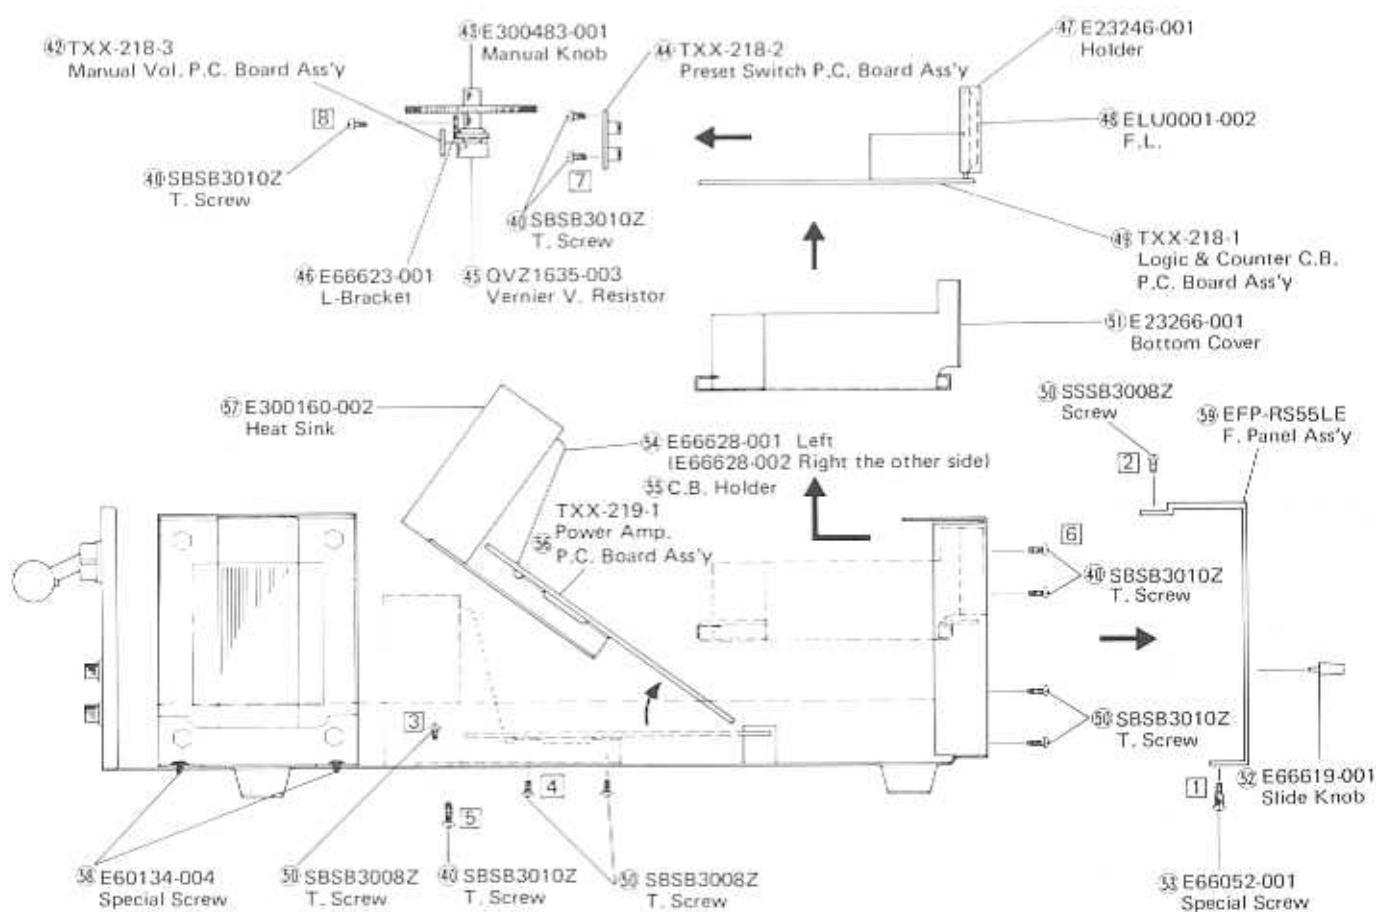
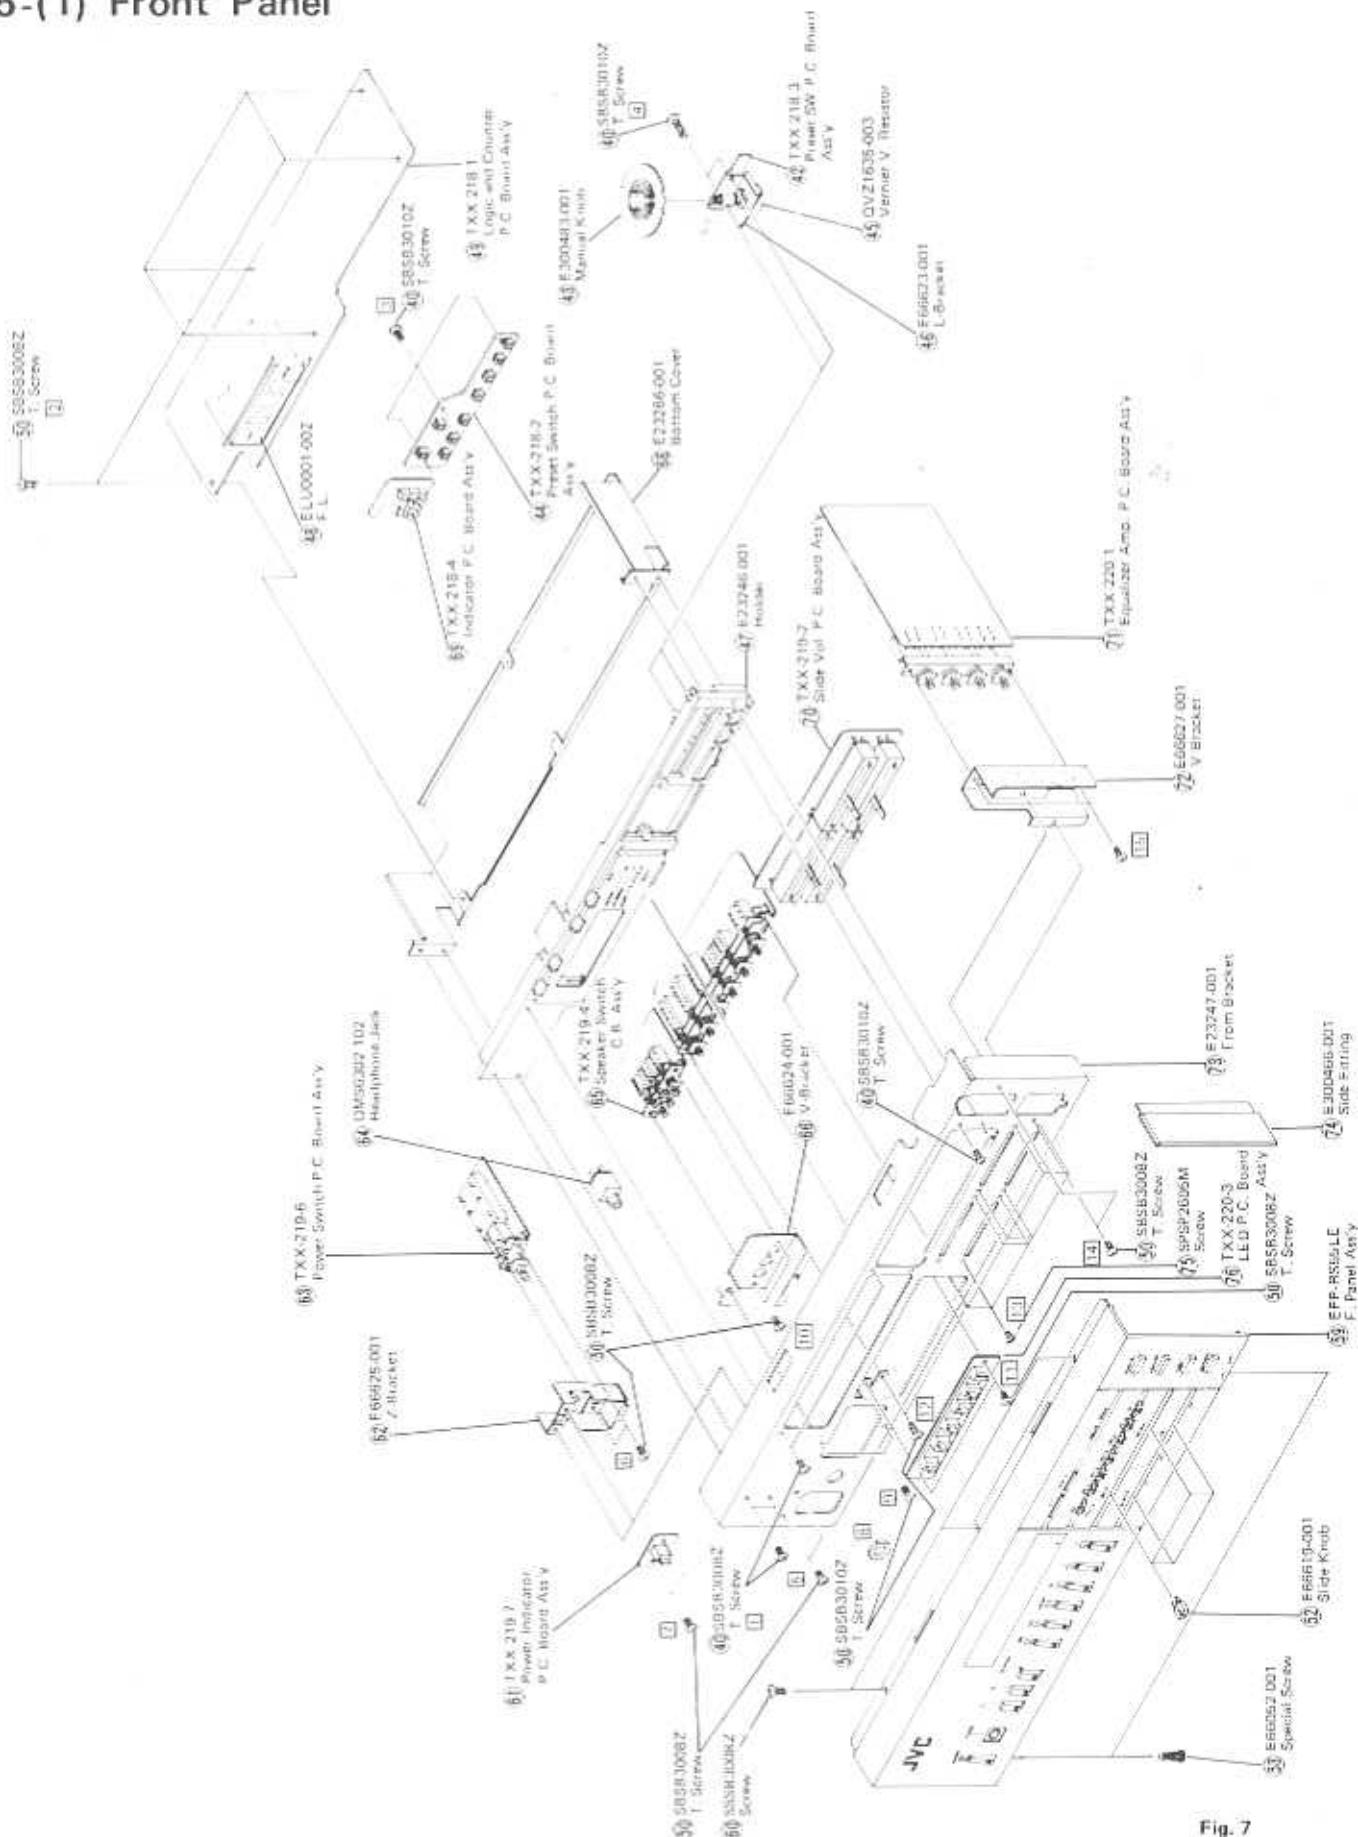

Fig. 6
Fig. 7
1. Remove 3 Screws 1 of Fig. 6
2. Remove 3 Screws 2 of Fig. 6
1. Remove 2 screws [3] of Fig. 6.
2. Remove 4 screws [4] of Fig. 6.
3. Remove 2 screws [5] of Fig. 6.
4. Pull the C.B. as shown Fig. 6 out.
2. Remove 6 screws [1] of Fig. 7 ([6] of Fig. 6) to take the Holder with this P.C Board Ass'y
3. Remove 2 screws [4] of Fig. 7 and take the TXX-218-3 Manual Vol. P.C. Board Ass'y off.
4. Remove 5 screws [2] of Fig. 7 from the Holder.
- Remove 3 screws [3] of Fig. 7, ([7] of Fig. 6)
- Remove 2 screws [4] of Fig. 7 ([8] of Fig. 6).
1. Remove 2 screws [5] of Fig. 7 to take Z-Bracket with Power SW P.C. Board Ass'y
2. Remove 2 screws [6] of Fig. 7.
2. Remove 2 screws [7] of Fig. 7.
- Remove 1 nut screw [8] of Fig. 7.
1. Remove 2 screws [9] of Fig. 7 to take V-Bracket with this C.B.
2. Remove 2 screws [10] of Fig. 7.
- Remove 2 screws [11] of Fig. 7.
- Remove 2 screws [12] of Fig. 7.
- Remove 8 screws [13] of Fig. 7.
1. Remove 2 screws [14] of Fig. 7 to take V-Bracket with this C.B.
2. Remove 2 screws [15] of Fig. 7.